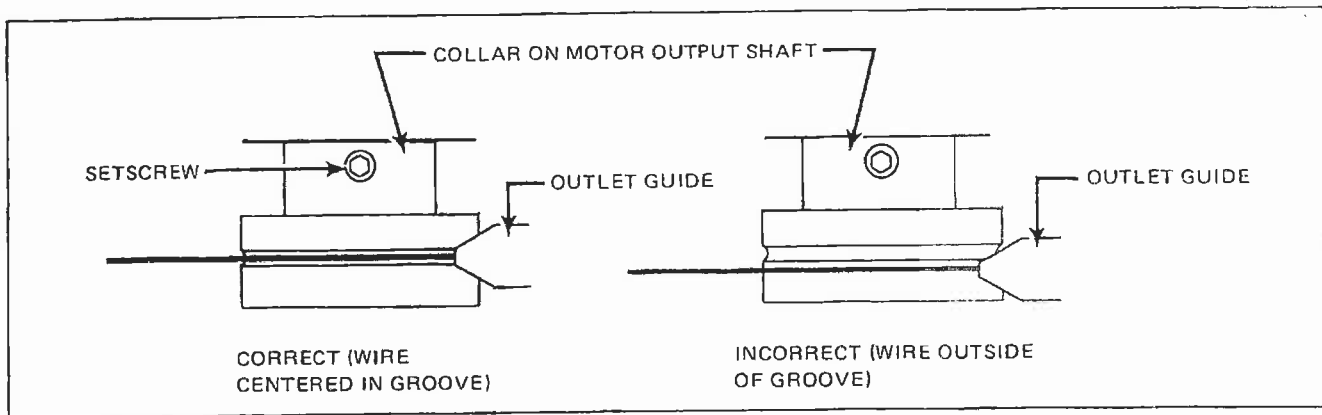

Fig. 7 - Welding Wire - Feed Roll Alignment
5. If necessary, adjust the feed roll by loosening the set-screw on the collar on the motor output shaft (using an Allen wrench). Move the collar and feed roll in or out as required, then tighten the setscrew (see Fig. 7).